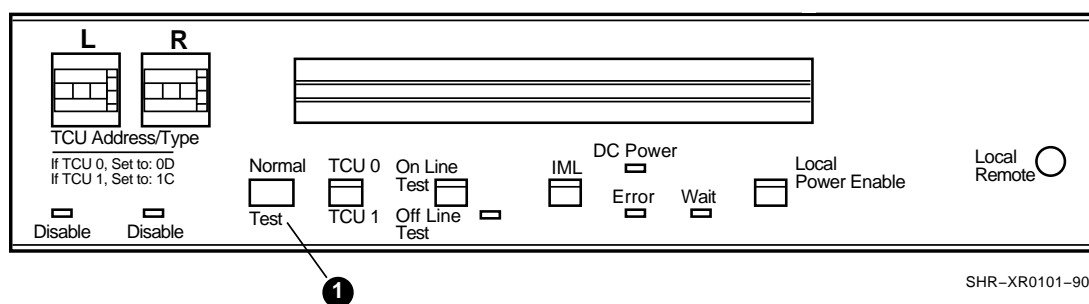

Figure 2-6 Normal/Test Switch
The Normal/Test switch ❶ controls the tape control unit mode of operation (Figure 2-6). When the switch is in the Normal position, the tape control unit is set for normal operation. When the switch is in the Test position, the tape control unit is set for testing. The tests are maintenance aids used by service representatives.